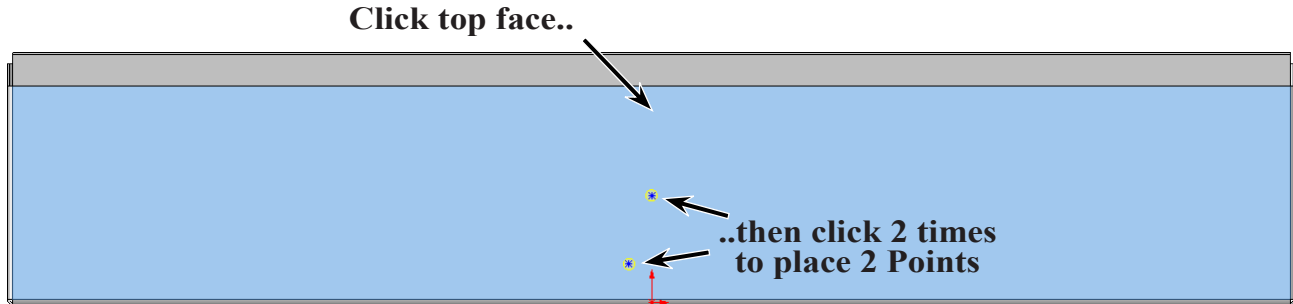

Fig. 18
Step 6. Click **front face** one time as face for holes. Then, click **two times** to place 2 holes, **Fig. 18**.